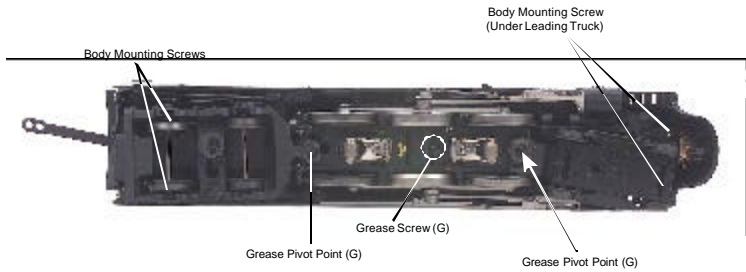

Figure 6: Removing The Body
2. Remove the boiler by removing the body mounting screws shown in Fig. 6
3. Remove the Phillips screw (marked “GREASE”) located at each set of wheels (Fig. 6).
You should also grease the leading and trailing locomotive truck tongues to enhance their ability to slide on the chassis. Follow the grease points shown on Fig. 6.
Remove boiler shell as shown on Page 13 Fig 6. Remove the 2 screws that attach the PCB bracket to the frame. Move the PCB assemble to the side. Cut the cable tie that bind the wire harness together. Be careful not to cut any of the wires. Unplug the set of wires with the burn out bulb from the distribution board, just behind the smoke unit. Gently pull the bulb(s) to be replaced from the backside of the bulb holder.